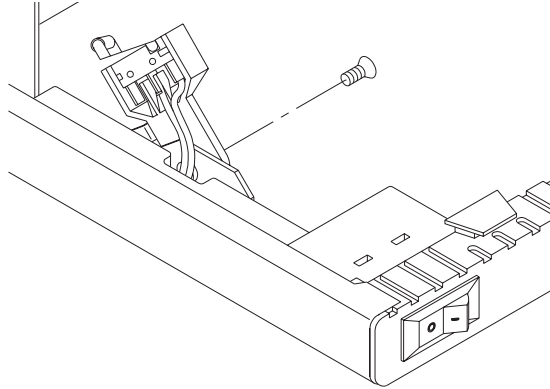

Figure 10-2 Door switch plate
- Using a T-15 TORX driver bit, remove the screw that holds the door switch plate in place, as shown in Figure 10-2. Move the switch down and toward the front of the CHS; do not disconnect the cable still attached to the switch.